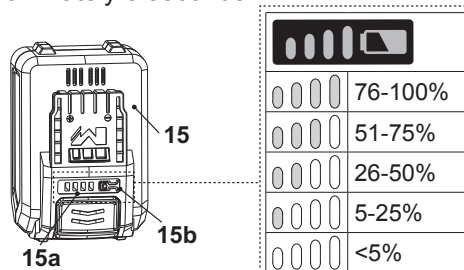

Fig. 5
The battery pack (15) is equipped with the battery capacity indicators (15a) which are used to give an indication of the battery pack's remaining capacity. Press the battery capacity button (15b) to check battery capacity (Fig. 5). The LEDs will stay lit for approximately 5 seconds.